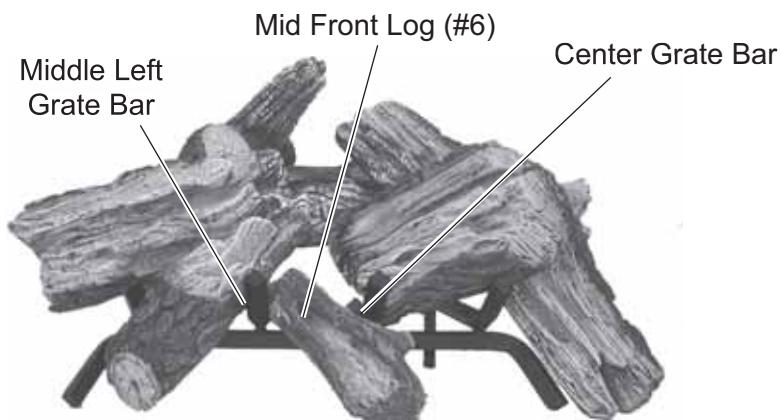

Figure 129 - Placing Mid Front Log (#6) on Grate Between Center and Middle Left Grade Bars.
7. Place Mid Front Log #6 on grate between center and middle left grate bars. Fit notch on back of log on the cross grate bar. *See Figure 129.*